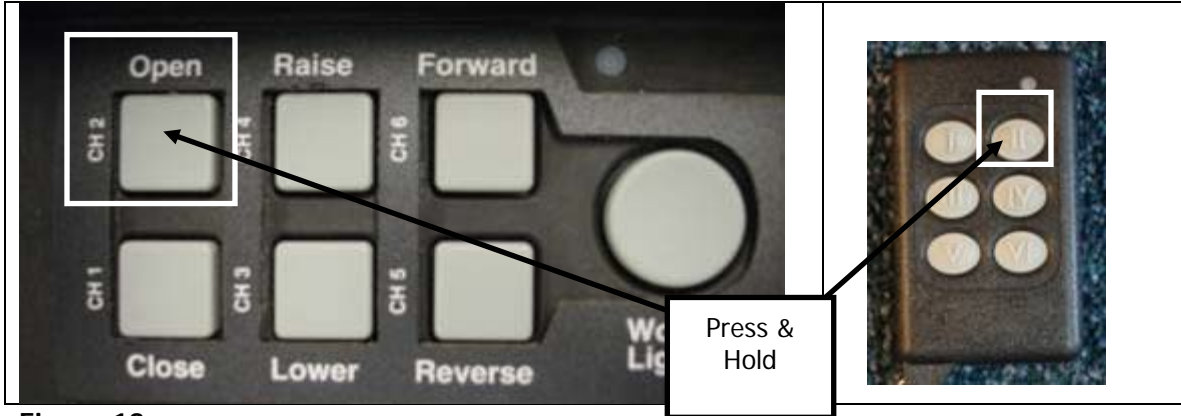

Figure 13
- 6) Tighten tarp by pressing and holding button 2 on the control box or on the key fob until the tarp is tight (see Fig. 13).